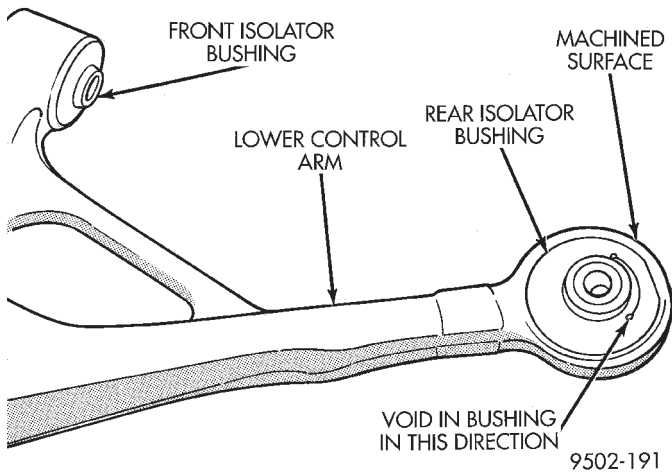

Fig. 90 Correctly Positioned Rear Isolator Bushing In Control Arm
(1) Start rear bushing into lower control arm **by hand, making sure it is square with its mounting hole in the lower control arm.** Bushing is to be installed from the machined surface side of lower control arm bushing hole, with the void in rubber portion of bushing facing away from ball joint (Fig. 90).